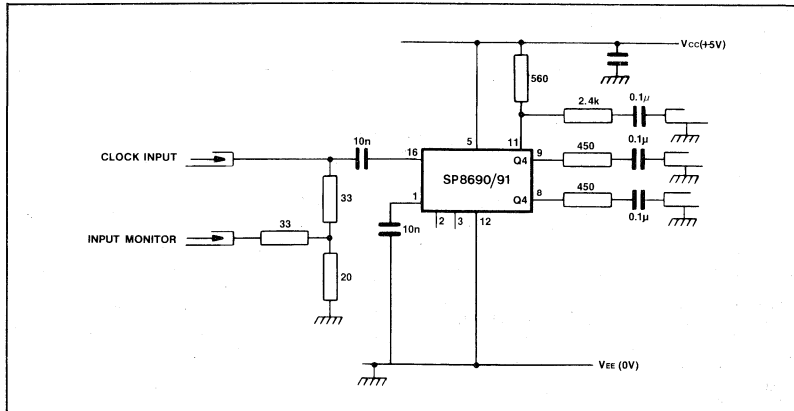

Fig.8 Test circuit for dynamic measurements
8. The rise/fall time of the open collector output waveform is directly proportional to load capacitance and load resistor value. Therefore load capacitance should be minimised and the load resistor kept to a minimum compatible with system power requirements. In the test configuration of Fig.8] the output rise time is approximately 10ns and fall time is 7ns typically.